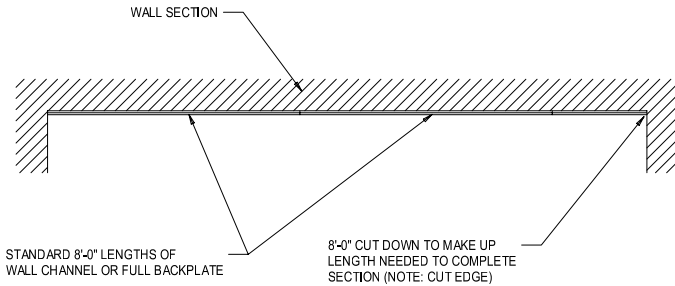

FIGURE VH-1
- (1b) Cut the snap mounting channel or snap full height backplate to the desired length. The channel and backplate are furnished in lengths of 4'-0" or 8'-0". Combine multiple lengths if needed. When joining two pieces, make sure that the cut end is at the end of the run. (FIGURE VH-1)